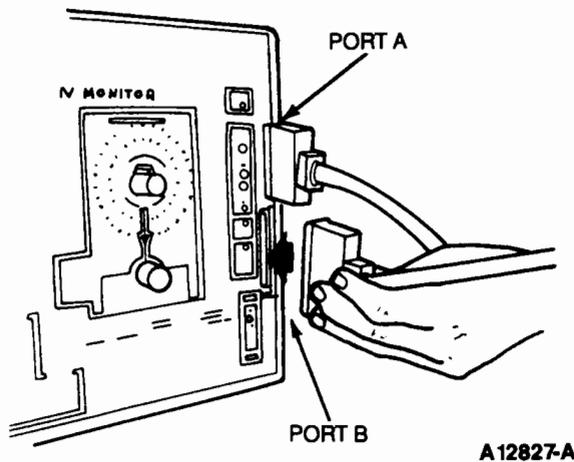

Figure 4.
3. Install the PORT A cable of the Recorder into the PORT A connector on the Monitor; install the PORT B cable of the recorder into the PORT B connector of the monitor. Make sure that the cables are properly oriented before insertion and are firmly seated afterwards. (Figure 4.)